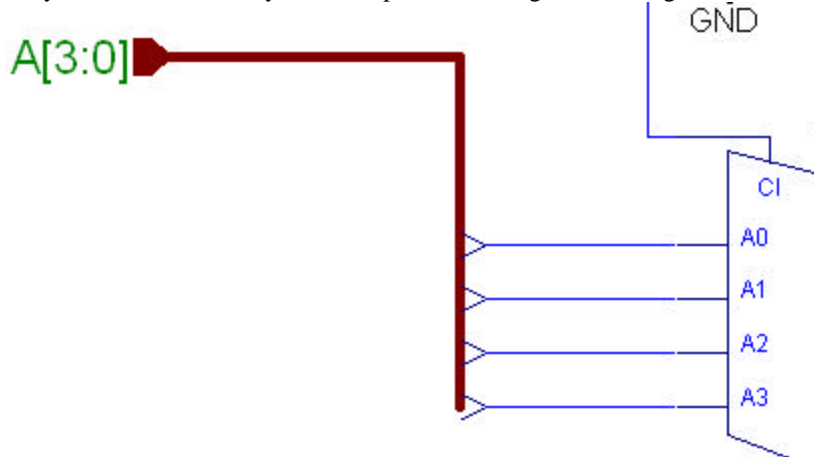

Figure 14
11. Make sure that you have labeled all your bus taps. The arrangement in Figure 14 won't work.
13. The buffers and pads (Figure 14) are I/O for the chip. Hierarchy connectors (Figure 15) are the I/O for macros.